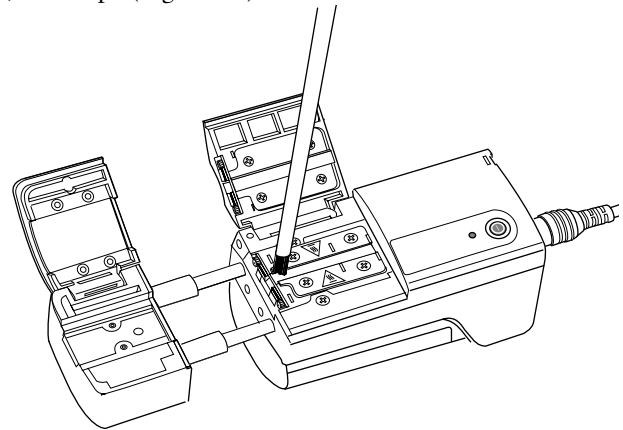

Figure 10
**4.7** Thoroughly clean the stripper with a brush, removing the stripped coating from the heating element, blade, and flaps (Figure 10).